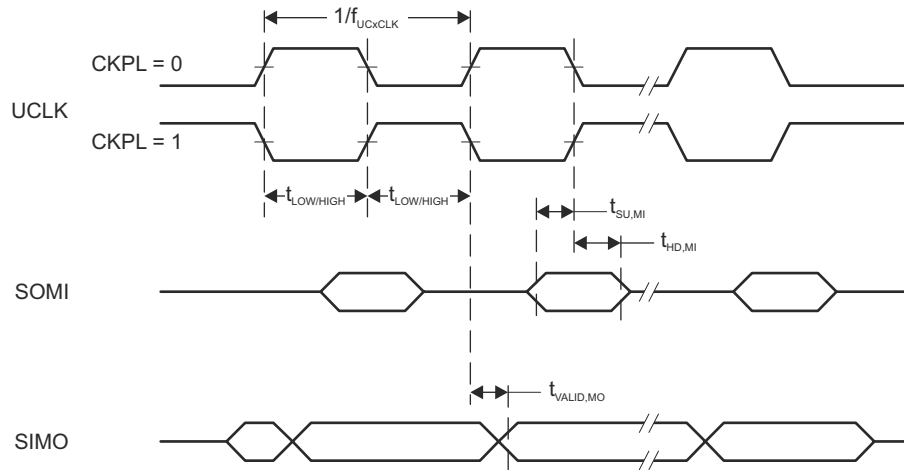

Figure 8-10. SPI Master Mode, CKPH = 0
- (2) Specifies the time to drive the next valid data to the SIMO output after the output changing UCLK clock edge. See the timing diagrams in Figure 8-10 and Figure 8-11.
- (3) Specifies how long data on the SIMO output is valid after the output changing UCLK clock edge. Negative values indicate that the data on the SIMO output can become invalid before the output changing clock edge observed on UCLK. See the timing diagrams in Figure 8-10 and Figure 8-11.